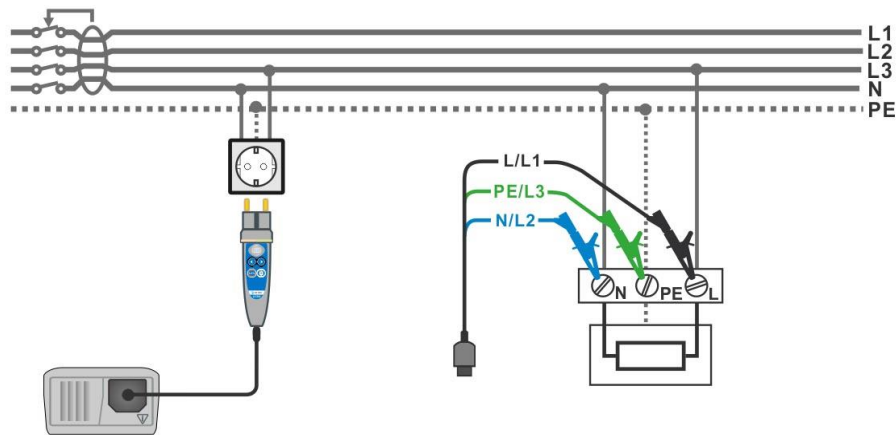

Figure 5.17: Connecting the plug commander and the 3-wire test lead
- ❑ **Connect** test leads to the item to be tested (see figure 5.17).
- ☐ **Connect** test leads to the item to be tested (see figure 5.17).
☐ Select the RCD function using the function selector switch. ☐ Set sub-function AUTO. ☐ Set test parameters (if necessary). ☐ Connect test cable to the instrument. ☐ Connect test leads to the item to be tested (see figure 5.17). ☐ Press the TEST key to perform the test.	Start of test